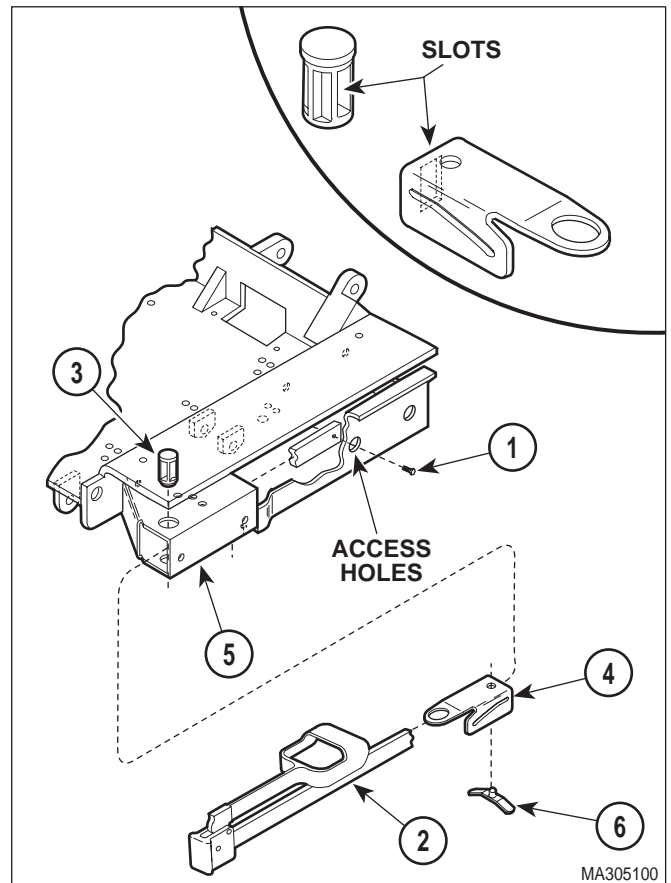

Figure 4-30. Stirrup Assembly Removal / Installation
- (1) Insert screwdriver in access hole and remove screw (1, Figure 4-30) from stirrup assembly (2).
- (2) Pull stirrup assembly (2) out of pivot boss (3).